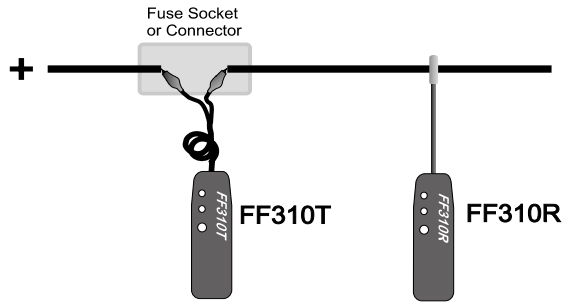
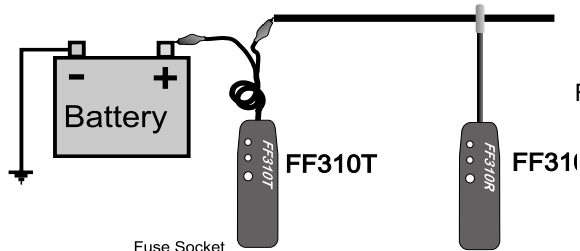

Fig.2 - Set up for tracing short or open circuits, or location of wiring
Fig.3 - Set up for tracing short and open circuits, or tracing wiring
- 6.2 Connect the FF310T (transmitter) in series with the short-circuited wire, making sure one of the unit's clips is connected to the circuit's positive supply (or vice versa for vehicles with positive supply connected to chassis). A fuse socket connector (in place of the blown fuse), a connector, etc., provides a convenient hook-up as shown in Fig. 2 and Fig. 3 in Page 6.
- **Tracing wires downstream** (from supply to load): replacing the load for a full short circuit allows the FF310 to work at its maximum capabilities. Before proceeding remove all electrical power from the circuit, connect the FF310T in series with the wire to trace, short circuit the load to ground (refer to **Hook Up Reference Chart** Fig.2 and 3), then reconnect power and follow instructions in section **6 – Locating Short Circuits**.
- The type and size of the leak in the circuit (impedance or resistance to ground) determines the amount of current flowing in the circuit. Small leaks (i.e. low current) will reduce the range of the tracer accordingly. In all cases the FF310R's probe should be positioned as close as possible to the wires, in order to maximize the signal captured by the tracer, and set to a higher sensitivity level . For hook up refer to the **Hook Up Reference Chart** Fig. 2 and 3 in Page 6.
- 9.2 Connect the FF310T (transmitter) in series with the open ended wire, making sure one of the unit's clips is connected to the circuit's positive supply or ground . A fuse socket (with the fuse removed), a connector, etc., provides a convenient hook-up as shown in Fig. 2, 3, 4 and 5 of the **Hook Up Reference Chart**.